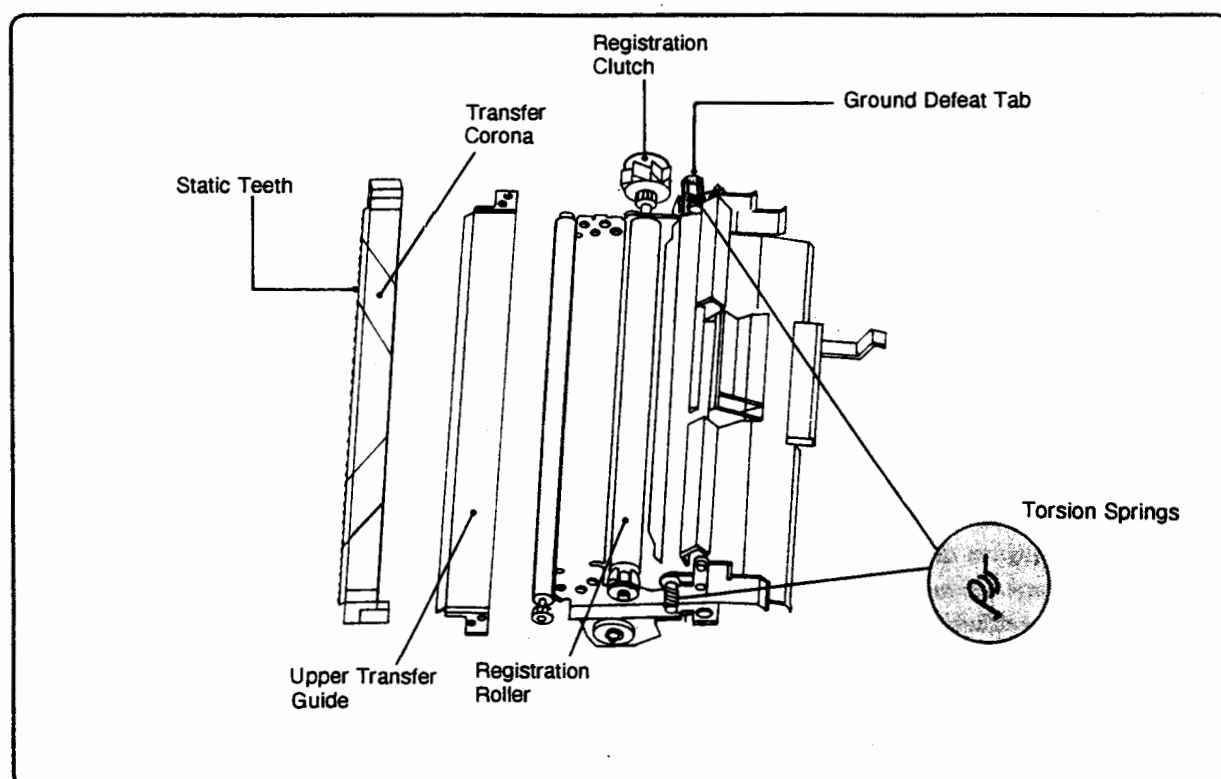

Figure 7-14. Registration Assembly
2. Are the Registration Roller torsion springs in place?	Visually inspect the springs. Correct if they are not in position. (See Figure 7-14).